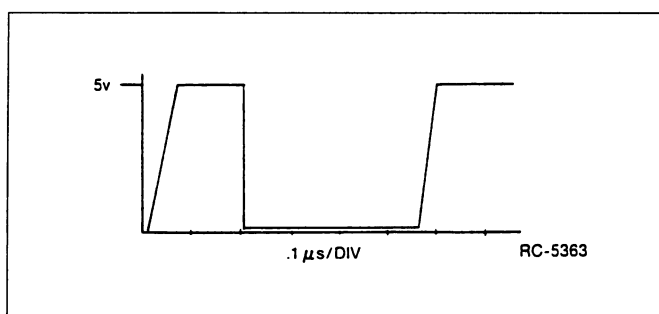

FIGURE 3 - ALE CLOCK
3. Check for oscillator activity by examining the ALE clock on U701, Pin 30 (see Figure 3). If not present, examine the system clock on U701, Pin 18 (5 volts pp at 11.059 MHz). The presence of the system clock, but no ALE may indicate a bad U701. If the system clock is not present, suspect Y701 and related components.